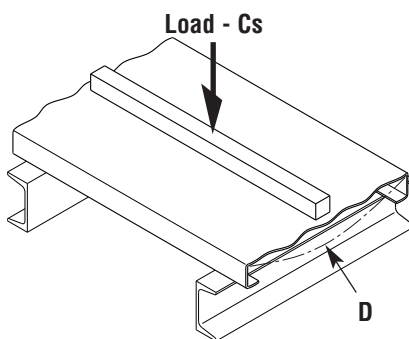
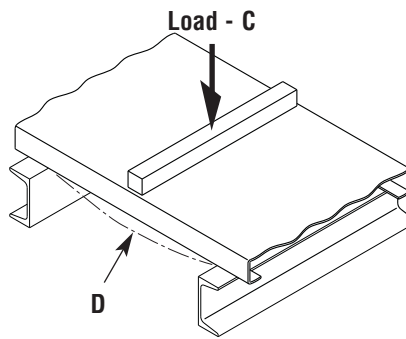

Figure 1a Strut Load
Figure 1b Concentrated Load
The first consideration is transverse bending in the grating surface, which is referred to as "strut flexure". This occurs when the grating is loaded with either a uniform load or a mid-width concentrated load, and the "struts" (grating surface) deflect relative to the side channels. To determine the allowable strut loads, samples of each grating material and thickness were tested for each plank width. (See Figure 1a below and 2a on the following page). The data resulting from these tests was used to prepare "strut loading" tables, which give allowable loads and deflections considering strut flexure only. These allowable strut loads, along with the results of additional tests performed on 8- and 10-Diamond grating, have been incorporated in the Product Selection/Design Tables on pages 14 through 25.
flexure. This occurs when the channels at mid-span of the plank deflect relative to support points. To verify the performance of the side channels, samples were loaded with concentrated and uniform loads at different spans (see Figures 1b/2b and 1c/2c). To approximate the most severe condition, there were no attachments between the channels and the supports. In cases where spans are shorter, channels deeper and planks wider, strut flexure becomes more critical.
Values indicated in the rows labeled "C" are the lowest of the (1) maximum allowable concentrated load considering channel flexure (Figure 1b and 2b), with both channels effective, and (2) the maximum allowable strut load (C_s) for a 1 foot long sample (Figure 1a and 2a).